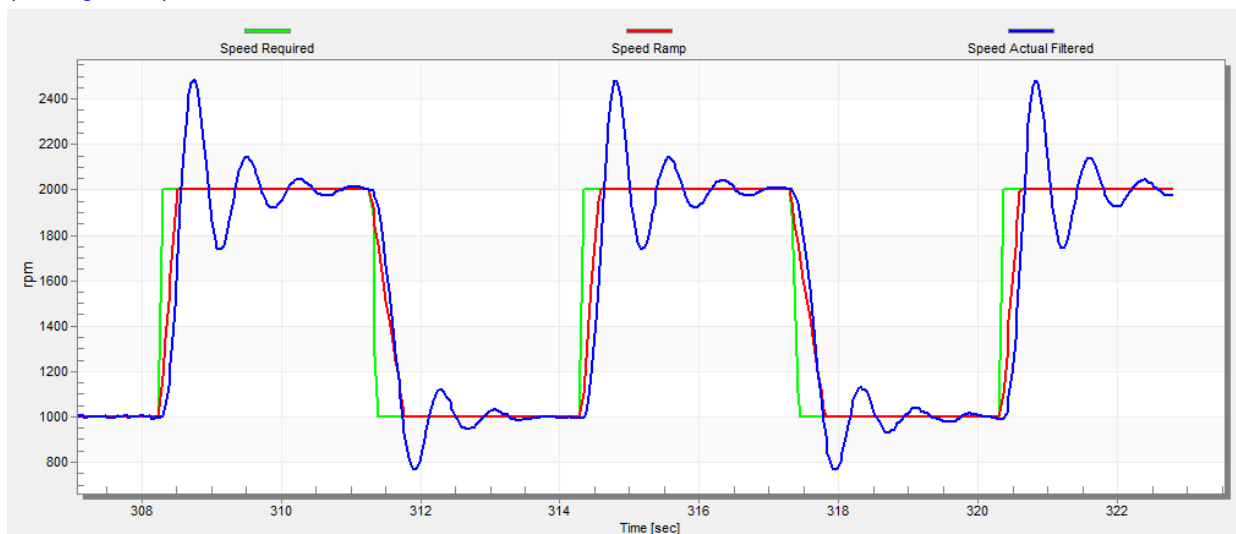

Figure 50. Speed controller response— SL_Kp value is low, Speed Actual Filtered greatly overshoots
- The “ SL_Kp ” value is low, the “Speed Actual Filtered” greatly overshoots, and the long settling time is unwanted (see Figure 50).